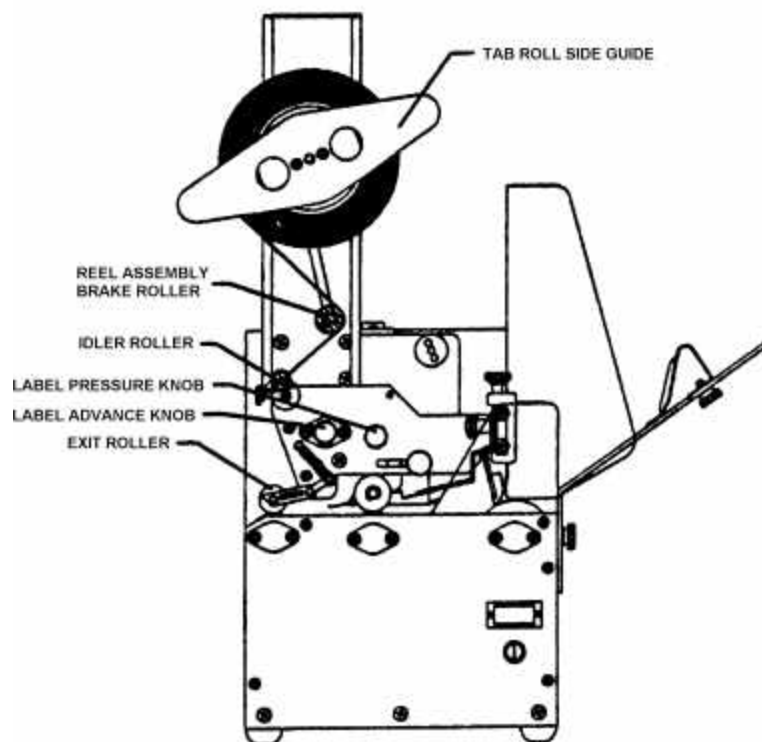

Figure 5
1. Remove TAB ROLL SIDE GUIDE (Fig.5).
5. Remove EXIT ROLLER (Fig. 5).
6. Thread tab stock behind REEL ASSEMBLY BRAKE ROLLER (fig. 5) and in front of IDLER ROLLER (Fig. 5).
8. With LABEL PRESSURE KNOB **ON** (Fig. 5); use LABEL ADVANCE KNOB (Fig. 5) to advance tabs until tab begins to peel.
3. Turn LABEL PRESSURE (Fig. 5) **OFF** and roll tabs backward until just backing paper is visible in sensor holder. Turn 1 click at a time clockwise until LED comes on. Counting the clicks, turn counterclockwise half the number that you just counted. (Example: the LED illuminates for the first time at position 4 and a second time at position 10. The difference between the two positions is 6 clicks. Turn back half that number or 3 clicks to position 7).
4. With LABEL PRESURE **ON**, use LABEL ADVANCE KNOB (Fig. 5) to advance until tab starts to peel away from backing paper.